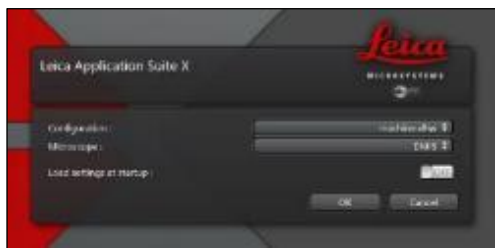

Figure 56: LAS X Start menu
1. After you have started the LAS X software, select the desired configuration (refer to Figure 56).
2. Now start LAS X by clicking the OK button (refer to Figure 56).